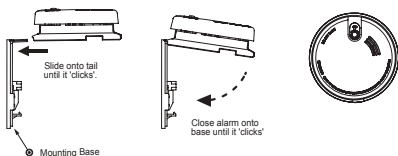

Figure 5
- Connect the alarm to the base tail first, and then swing the alarm closed onto the base until a “click” is heard. (See Figure 5)
To clean your alarm, remove it from the mounting bracket as outlined in “page 16 Battery Replacement or page 11, Figure 5”. You can clean the interior of your alarm (sensing chamber) by using compressed air or a vacuum cleaner hose and blowing or vacuuming through the openings around the perimeter of the alarm. The outside of the alarm can be wiped with a damp cloth.